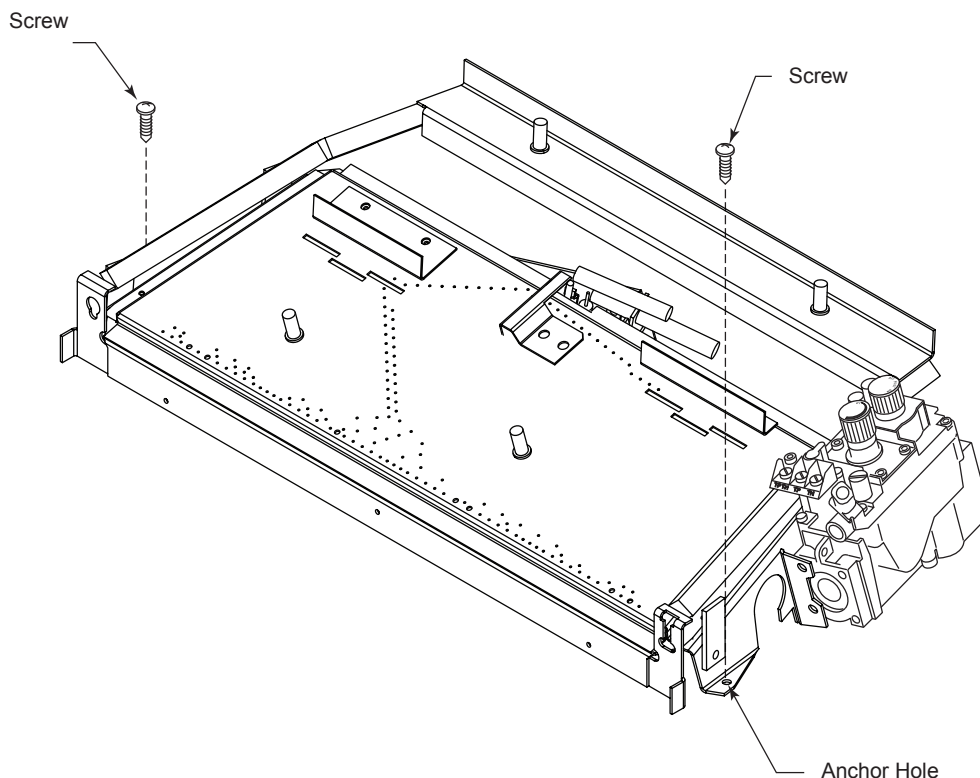

Figure 3.10 - Securing Heater to Floor of Fireplace/Firebox
2. Anchor holes are located on the right and left sides of the brackets attached to the engine base. After centering the burner assembly correctly, mark the holes on the fireplace or firebox floor. Drill two (2) 5/32" diameter holes approximately 1 1/4" deep. Anchor the two anchoring screws shipped with the unit using 1/4" hex head chuck and secure the burner assembly to the fireplace through the holes drilled earlier. See Figure 3.10.
3. Anchor the grate to the fireplace/firebox floor using the screws provided. See Figure 3.10.